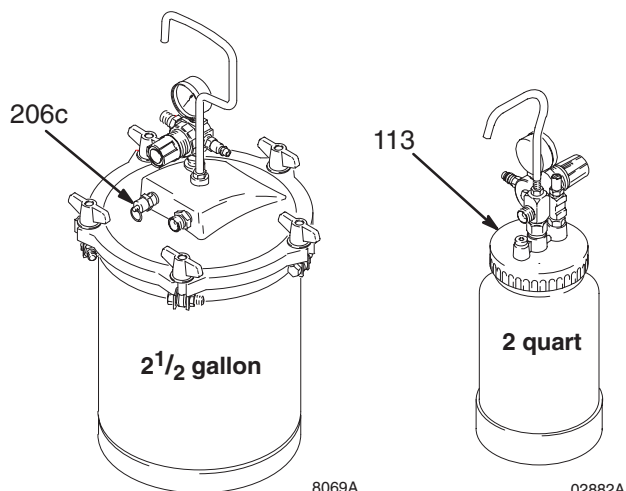

Fig. 4
1. Relieve remote pressure pot pressure as follows (see Fig. 4):